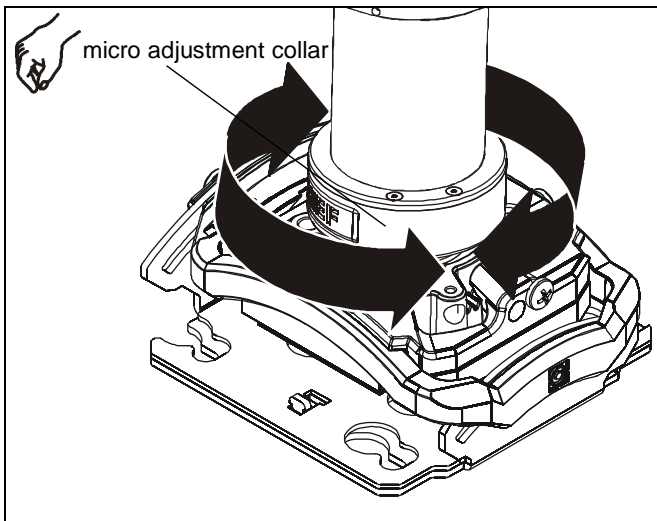

Figure 4
1. Rotate micro adjustment collar to raise or lower projector mount as desired. (See Figure 4)